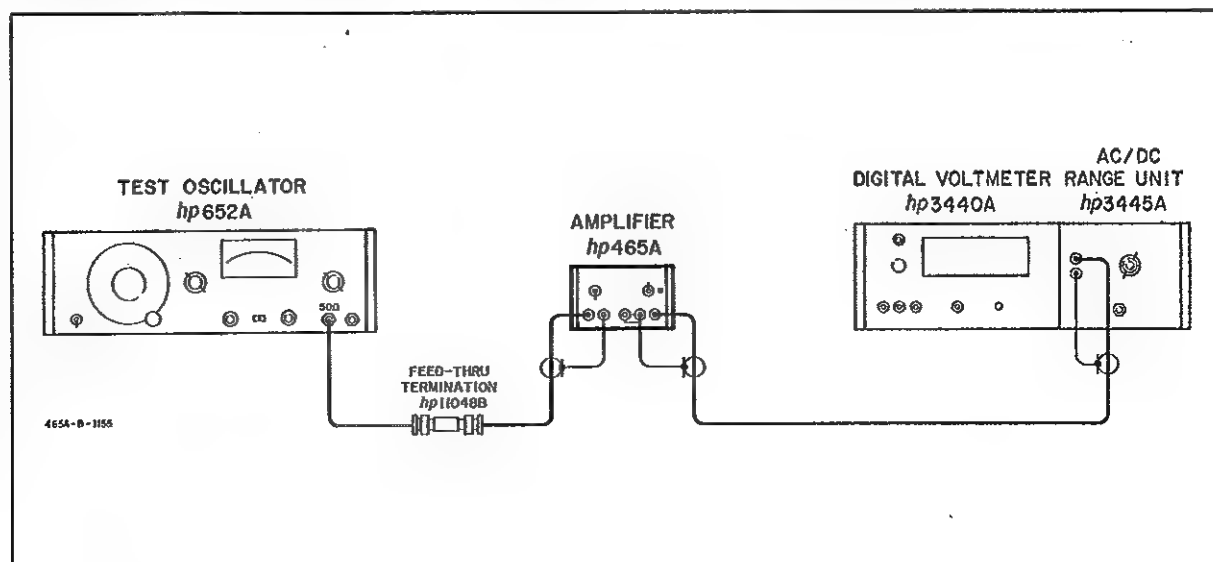

Figure 5-1. Frequency Response Check .
- Figure 5-1 describes the recommended test arrangement. A Test Oscillator (-hp- Model 652A) and an AC Digital Voltmeter (-hp- Model 3440A/3445A) will be required for this check.
- Figure 5-1 describes the recommended test arrangement. The -hp- 3440A/3445A operates only between 50 Hz and 100 kHz so an additional AC Voltmeter (-hp- Model 331A) is recommended for the 10 Hz and 1 MHz checks.
- Use the test arrangement shown in Figure 5-1. Set the 465A GAIN to 20 dB.